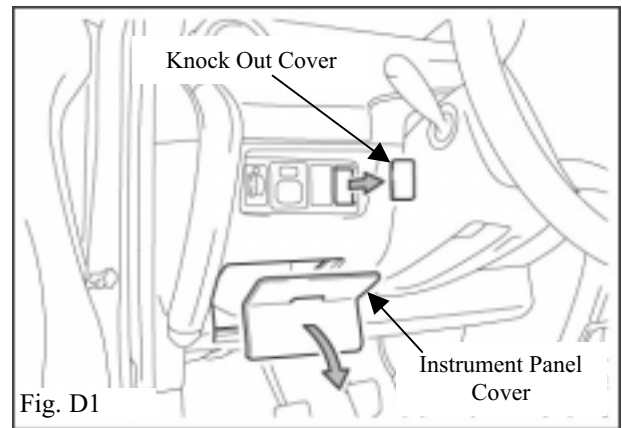

Fig. D1
1. Remove the instrument panel cover. (Fig. D1)
- ➔ 2. Remove and discard far right knock out cover from mirror control panel position shown. (Fig. D1)